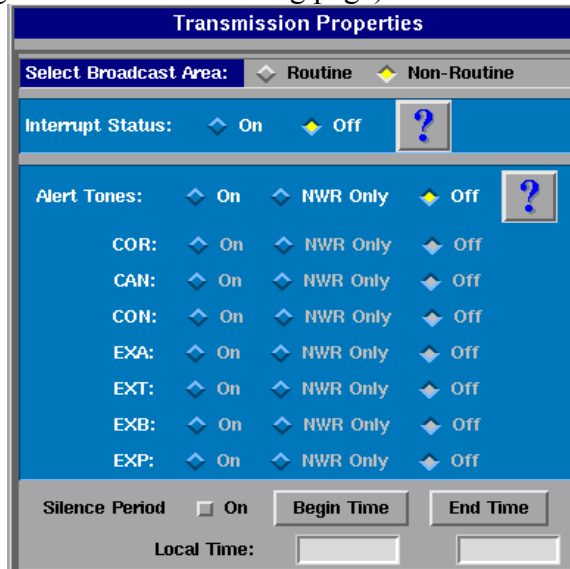

Figure 4c – non-routine BSA color background
- o) For all products, you can toggle between the settings for your routine BSA and your non-routine BSA listening areas. Click the radio button between the two to switch between them. When you are configuring your non-routine BSA settings, the background of this section will switch from grey to an aqua-blue (Figure 4c on the following page).